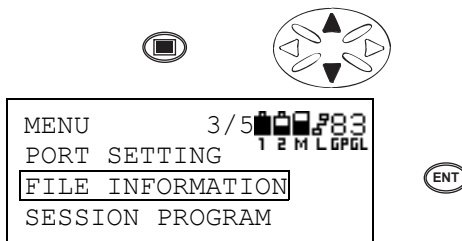

Figure 3-97. Initiate Menu Mode, Scroll to File Information, and Press Enter
1. Press the **menu** key to enter the menu mode. Press the **up/down cursor key** to select FILE INFORMATION and press **ENT** (Figure 3-97).